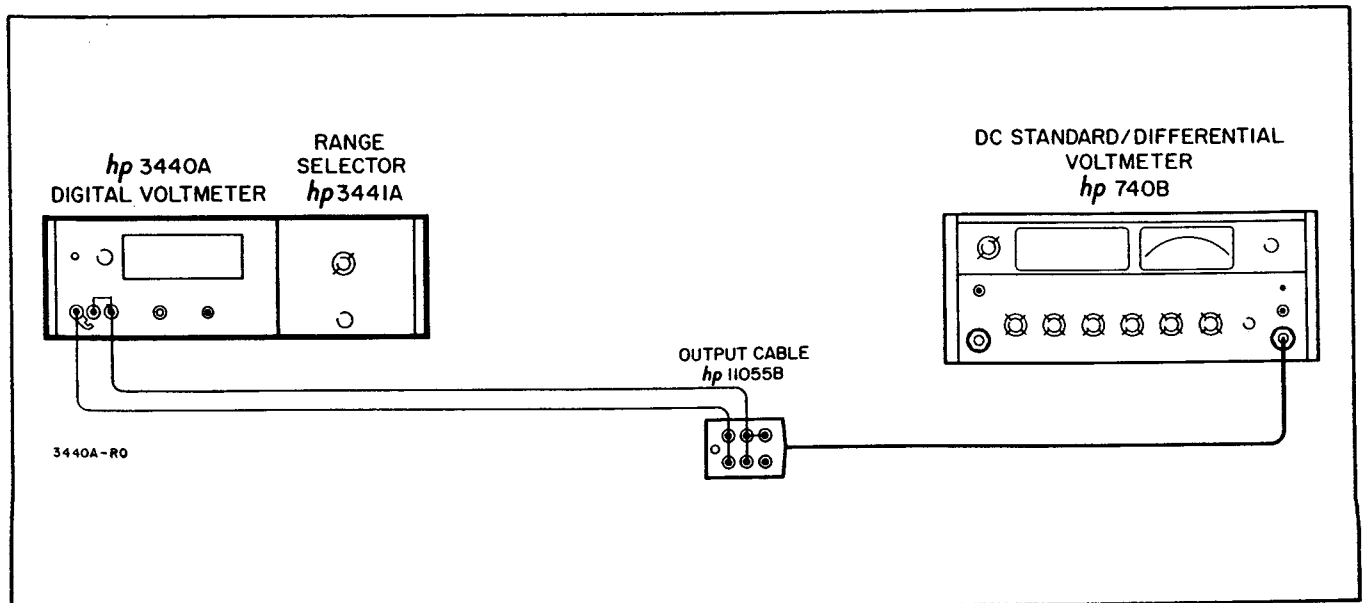

Figure 5-5. DC Common Mode Rejection Check
- a. Connect Model 3440A and dc standard as shown in Figure 5-5.